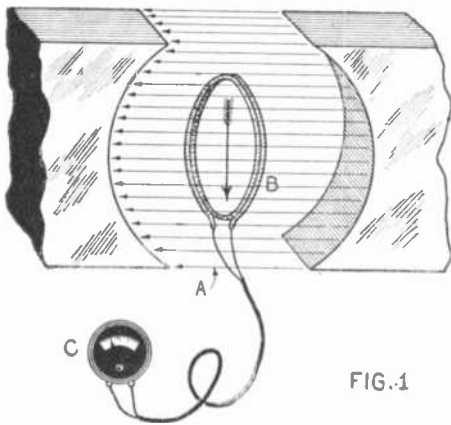

FIG. 1
as to cut the magnetic lines of force is caused by the phenomenon of "Electro-Magnetic Induction." If the conductor is in the form of a coil, the movement of this coil must be such that the number of lines of force passing through it will be altered; for example, if the coil of wire is passed through a uniform magnetic field in a straight line as shown in Fig. 1, at (B) no current will be induced in it as indicated by the galvanometer (C), which is connected between the ends of the coil.
Hook up the circuit as shown in Fig. 1 and connect one terminal solidly to one side of the supply circuit as shown. Now touch the terminal (A) and take the voltmeter reading. Next touch (D) to the contact (B) and take this voltmeter reading. In this case, of course, the voltmeter is in series with the capacity. Next note carefully the rated resistance of the voltmeter. These are all the readings that are necessary, and it is then a matter of a few computations to find the capacity of the condenser.